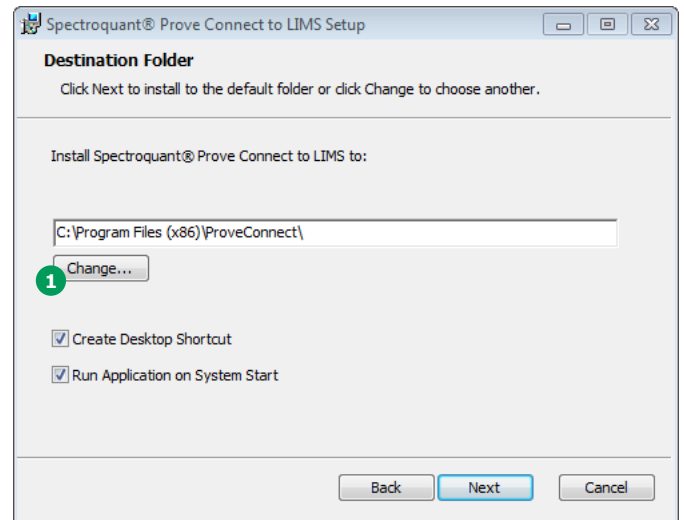
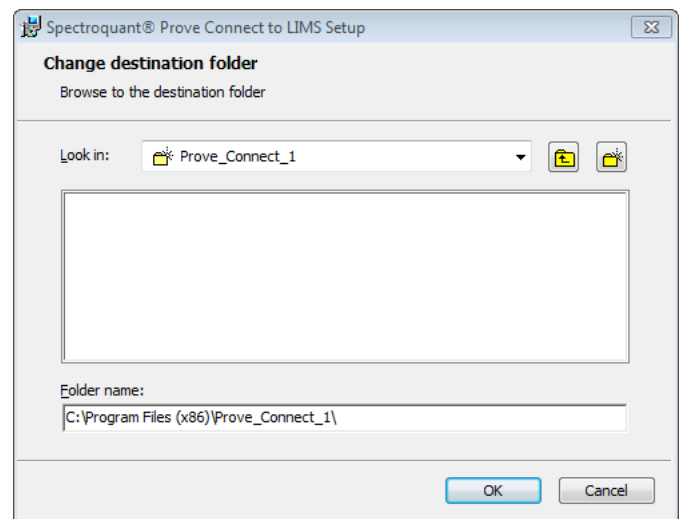

Figure 5 - Selection of destination folder for software installation
Figure 6 - For selection of an installation folder other than the predefined directory, this dialog window will open
1. If you would like to install Prove Connect into another folder than the predefined directory given in Figure 5, please define the installation folder by clicking the "Change" button **1** (Figure 5). A dialog window opens (Figure 6) that allows you to select or create the new installation folder.